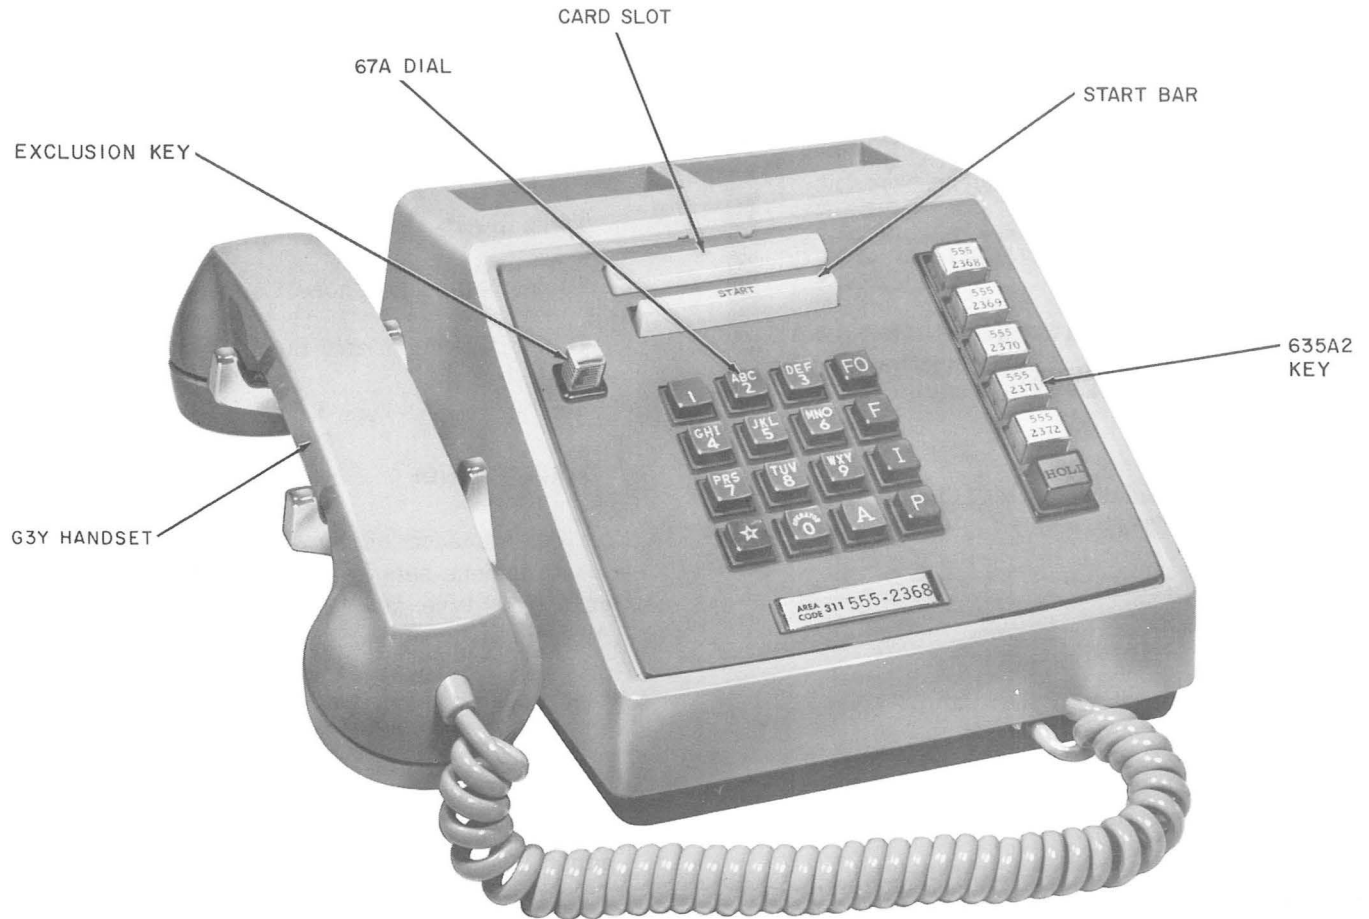

Fig. 1—3666A1A Telephone Set
- (1) Insert punched card into card slot with name at top, facing front of set. Push card down completely.
- (2) Remove handset and listen for dial tone.
- (3) Depress dialer START bar (Fig. 1). Dialer will start and number will be dialed automatically as the card rises in the card slot.
- (4) On completion of call, replace handset. Remove card and return it to index.
- (5) To abandon call during dialing, restore handset. The card dialer will continue to read entire card. After card travel has ceased, remove card from slot and return it to the index.